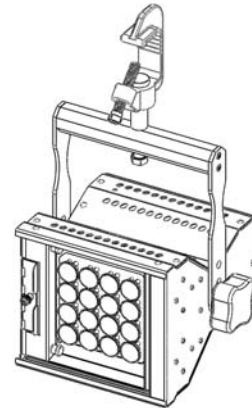

Figure 7
2. Tightly fasten mounting screw in place (Fig. 7).